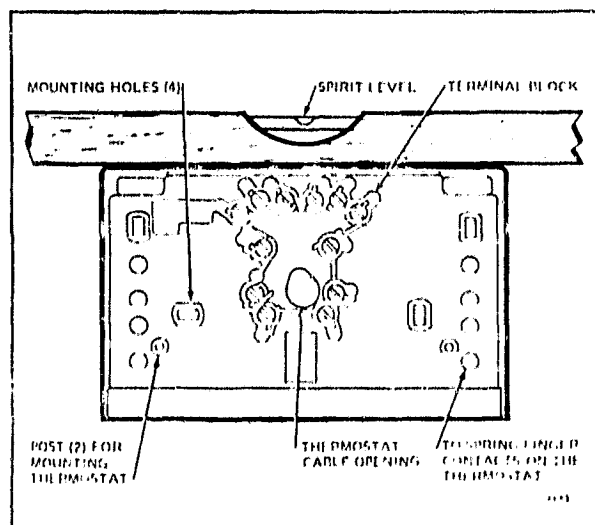

FIG. 4—LEVELING THE SUBBASE.
5. The subbase mounting slots provide for minor out of level adjustments. Level the subbase using a spirit level, as shown in Fig. 4 and tighten subbase mounting screws.